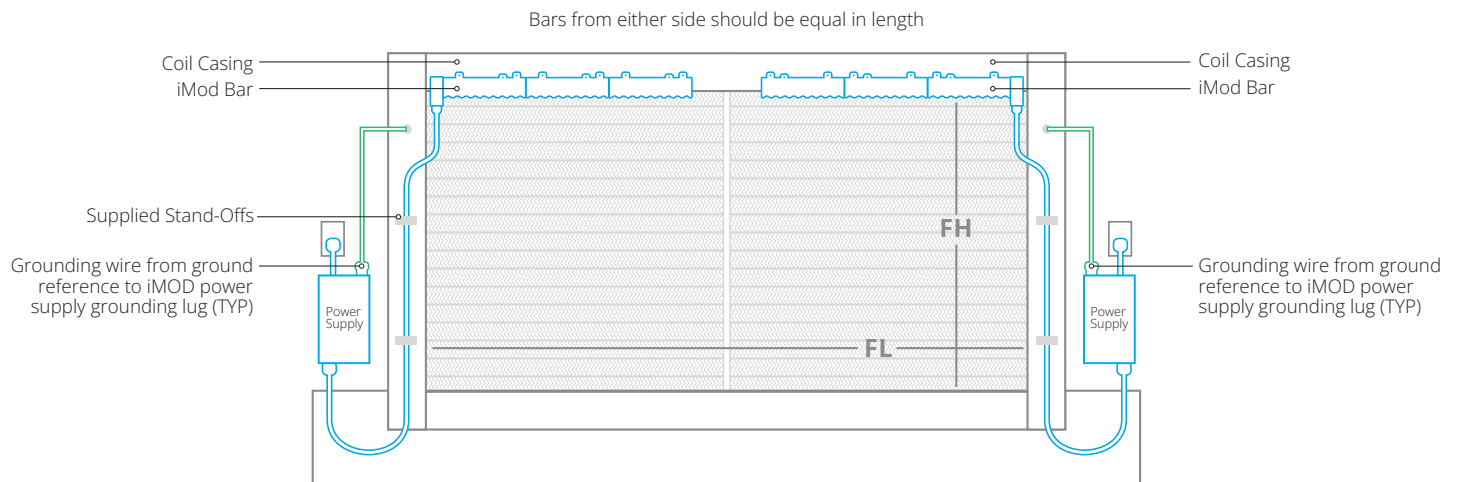

Figure 4.
- If the cooling coil finned length (FL) exceeds 12', a second iMOD bar should be mounted on the coil with an additional power supply mounted on the opposite side of the unit. Both bars should be equal in length to the nearest 6" module. The ends of the two bars should point to each other. See Figure 4 for reference.